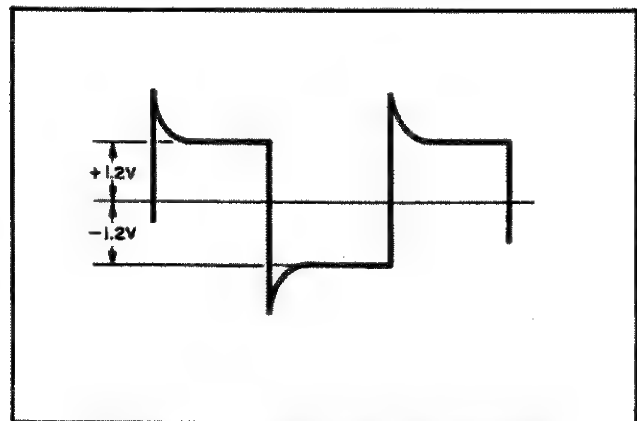

Figure 5-14. Current Sink Test Waveform
- Turn on both instruments simultaneously and observe that waveform sampled across the 1 ohm resistor is as illustrated in Figure 5-14.
- Repeat test with VOLTAGE control on test instrument set fully counterclockwise. Waveform should be same as Figure 5-14.